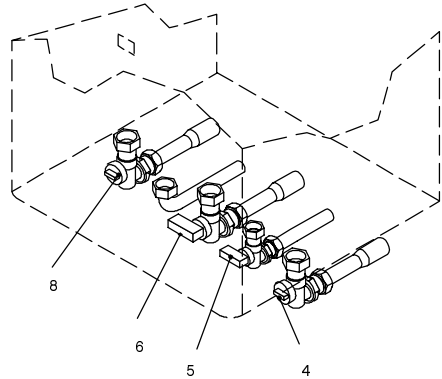

fig. 2.10
- 2 Shut off the gas supply cock (6) and the cocks for the water circuits (4, 5 and 8) fitted under the boiler (fig. 2.10);